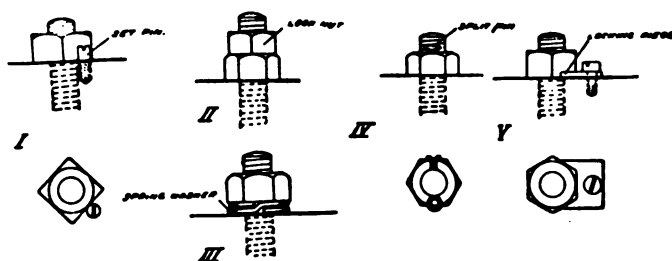

FIG. 126.—METHODS OF LOCKING NUTS.
the car has an almost miraculous power in working things off unexpectedly. Various methods of locking nuts are shown in Fig. 126. The most important nuts to lock, which should be done on all cars when sent out by the makers, are (1) all nuts in steering-gear; (2) all nuts at both ends of connecting-rods; (3) all nuts holding on the wheels. A few points to remember about bolts and nuts are as follows; you will pick up others by intimate acquaintance with the repair man: